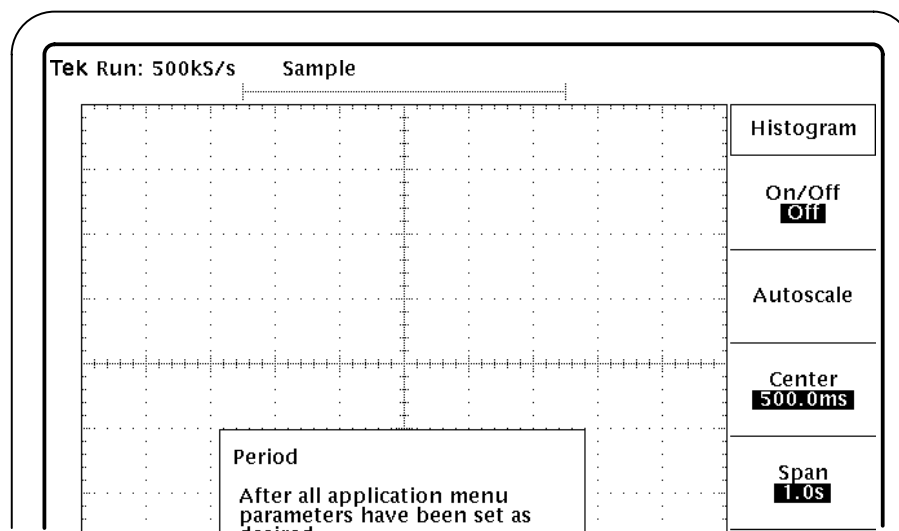
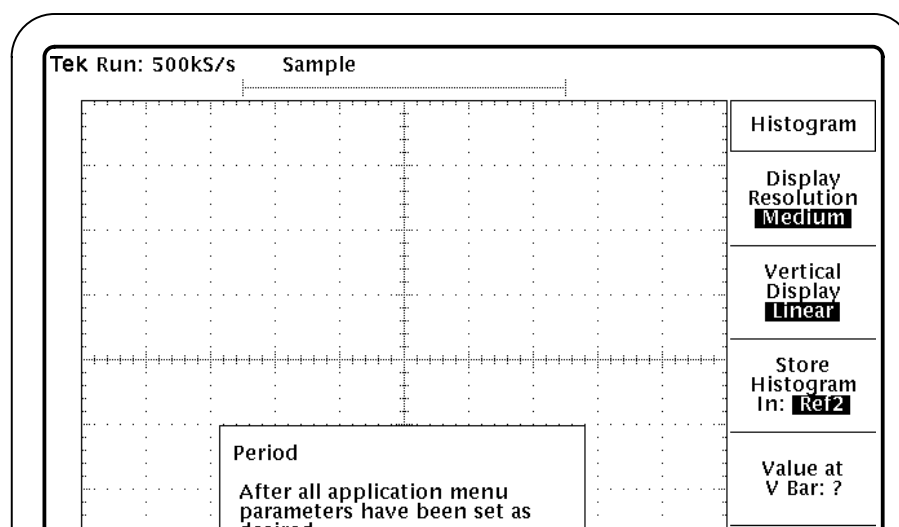

Figure 19: Histogram format menu, part 1
Figure 20: Histogram format menu, part 2
1. Press Histogram (main) → On/Off (side) to enable or disable the format. You define the format in the remaining menu items. See Figure 19 and Figure 20.